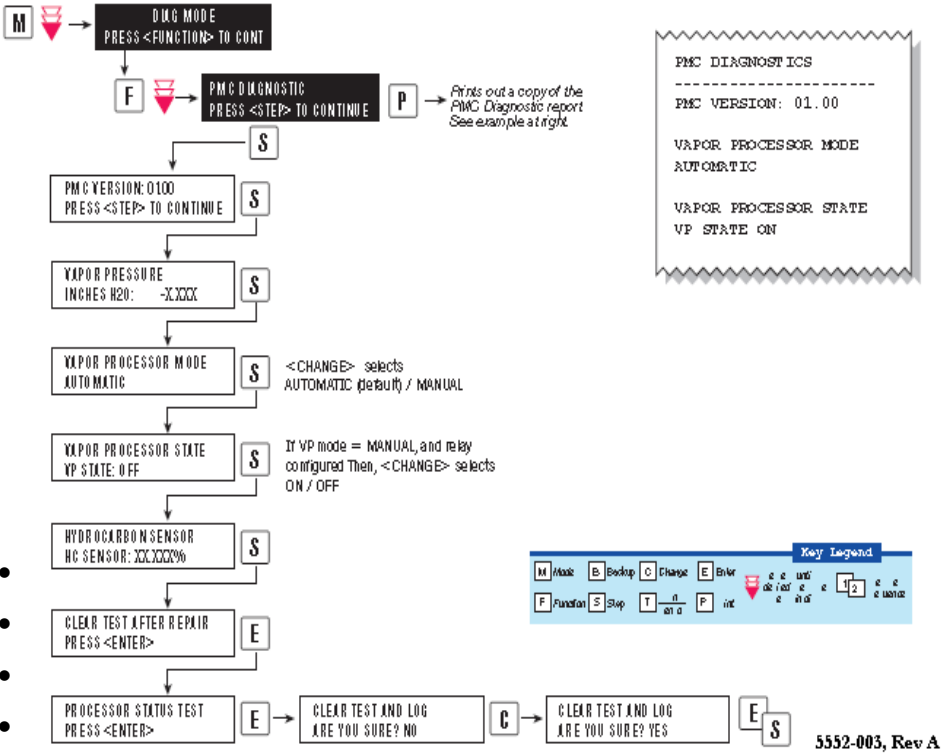
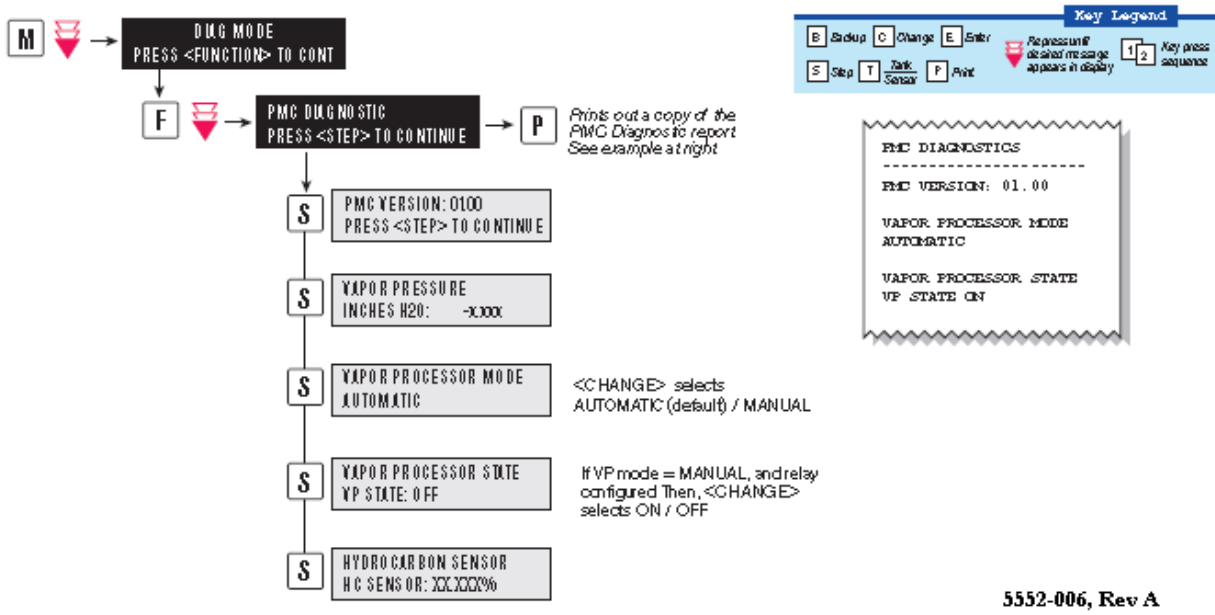

Figure 10: PMC Diagnostic Menu with PMC Software
Figure 11: PMC Diagnostic with ISD Software
- Follow the steps at the TLS console to put the TLS-350 in the Manual “OFF” Mode, as shown in Figure 10 for the PMC Diagnostic Menu and Figure 131 for the ISD Diagnostic Menu.
- Put the TLS-350 in the Manual OFF mode as shown in the Diagnostic Menus (See Figure 10 or Figure 11).
- Put the *Processor* in the manual ON Mode at the TLS as shown in the diagnostic menu in Figure 10 or Figure 11.